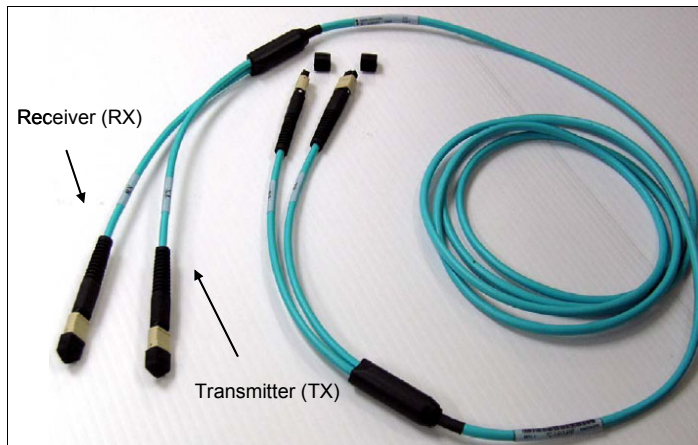

Figure 4-7 OM3 50/125  $\mu\text{m}$  multimode fiber cable with MPO connectors
**Important:** The HCA3-O fanout has two ports (1 and 2). Each port has one connector for transmitting (TX) and one connector for receiving (RX). Ensure that you use the correct cables. An example is shown in Figure 4-7.